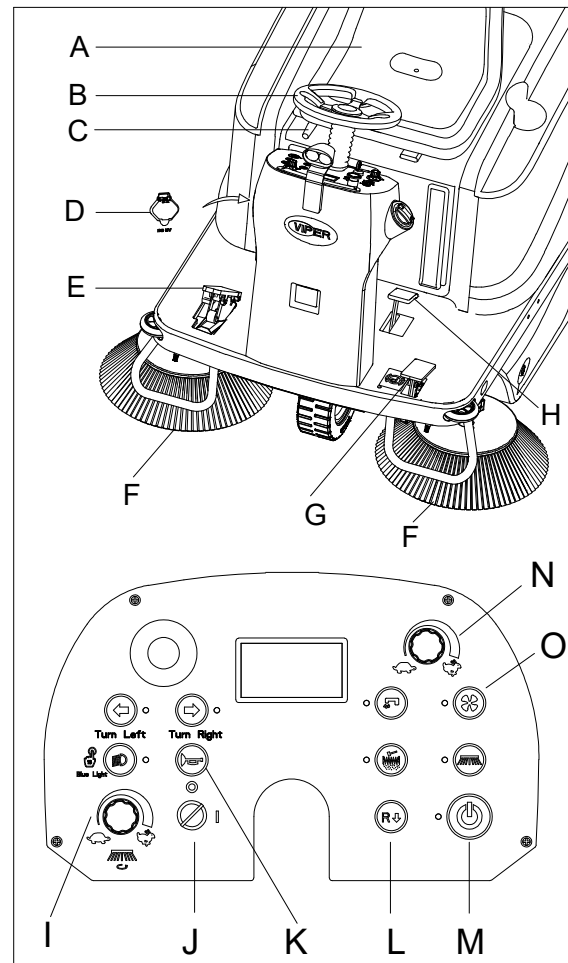

Figure 10
1. Sit on the driver's seat (A, Figure 10) and adjust its position with the lever (C, Figure 10) to allow easy reach of all controls.
The driver's seat (A, Figure 10) is equipped with a safety sensor, which allows the machine to be driven only when the operator is on the driver's seat.
1. Sit on the seat (A, Figure 10), insert the ignition key (J, Figure 10), and turn it to "I".
3. Press one-button start button (M, Figure 10) to start the machine, the side brooms and main broom are lowered to the floor automatically.
4. Press the accelerator pedal (E, Figure 10), drive the machine forward or backward with steering wheel (B, Figure 10) and forward-reverse button (L, Figure 10). Driving speed can be adjusted with speed adjusting knob (N, Figure 10). Main/side brooms and vacuum motor begin to work.
5. Adjust side broom speed with side broom speed adjusting knob (I, Figure 10) based on cleaning requirements.
6. The USB charging port (D, Figure 10) can be used to charge mobile phone or pad when ignition key (J, Figure 10) is turned to "I".
7. Press the horn button (K, Figure 10) to warn people when necessary.
The main broom and side brooms (F and H, Figure 10) can be lowered and lifted even when the machine is moving.
8. Start sweeping by turning the steering wheel (B, Figure 10) and driving the machine forward with the accelerator pedal (E, Figure 10).
9. Release the accelerator pedal (E, Figure 10), and the machine stops moving.
10. Press one-button start button (M, Figure 10) again to turn off brooms, vacuum motor and pump. The main broom and side brooms are lifted from the floor automatically. The vacuum system is turned off after a delay of several seconds.
4. To collect light and bulky waste materials, lift the front blade by pressing the flap pedal (H, Figure 10); take into consideration that the machine vacuum capability is reduced when the front blade is lifted.